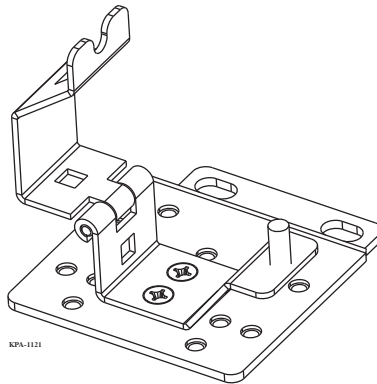

Figure 7 — Universal Cable Clamp
**Step 2:** Attach the UCC clamshell to the strain-relief bracket as shown in Figure 7.
**Step 3:** Attach the strain-relief bracket to the housing (Figure 7).